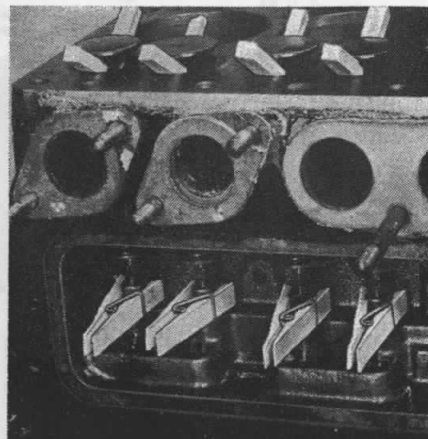

Fig. MH141—Engine valves and tappets raised for camshaft removal.
48A. Remove valve cover plates, raise valves, and hold in position with wedges under heads as shown in Fig. MH141. Lift tappets off camshaft and hold in up position with clothes pins as shown. Remove cap screws holding camshaft thrust plate in place and pull camshaft and gear unit out of engine. Camshaft end play is maintained between 0.004 and 0.006 by the thrust plate. If end play is excessive, it may be corrected by installing a new thrust plate. Install camshaft by reversing the removal procedure.
49. To remove camshaft, first remove timing chain as outlined in paragraphs 47 & 47A. Remove distributor, distributor shaft, oil pump and cylinder head. Remove valve cover plates, raise valves and hold in position with wedges as shown in Fig. MH141. Lift tappets off camshaft and hold in up position with spring type clothes pins as shown. Remove camshaft thrust plate from front of block and withdraw shaft from engine. The recommended camshaft end play of .002-.006 is controlled by thickness of the thrust plate. Install camshaft by reversing the removal procedure.